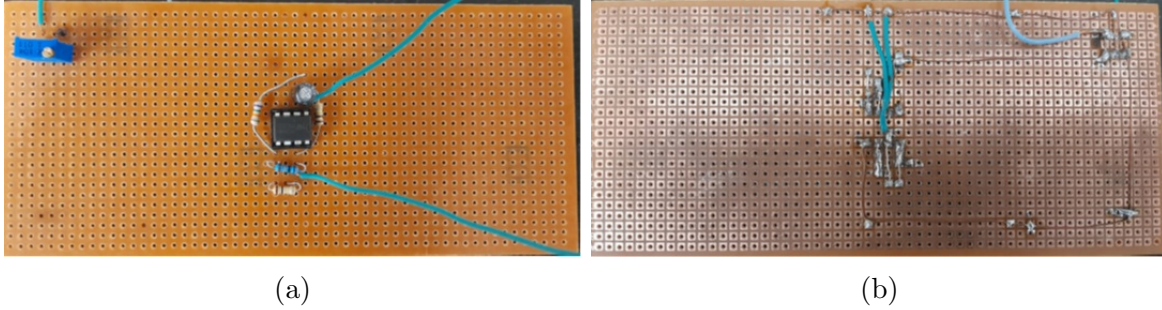

Figure 4: Practical circuit construction on veroboard: (a) front side where components are placed and (b) strip-side where component wires are soldered.
We used LM358 which is a dual op-amp integrated circuit (IC) biased by a common power supply to build our function generator (see datasheet in the appendix) . A 100 k Ω resistor was used as the feedback resistor and capacitor used was a 0.1 μ F polar capacitor. The figure 4 shows the constructed circuit on the veroboard.